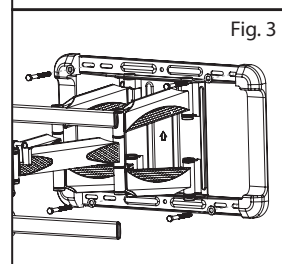

Fig. 3
- 6** Attach the mount to the wall with the arrow pointing up using the lag bolts (A) and washers (B) provided (see Fig. 3). Do not release the mount until all bolts are secure. Ensure that the mount remains level.
6 Attach the mount to the wall with the arrow pointing up using the lag bolts (A) and washers (B) provided (see Fig. 3). Do not release the mount until all bolts are secure. Ensure that the mount remains level.